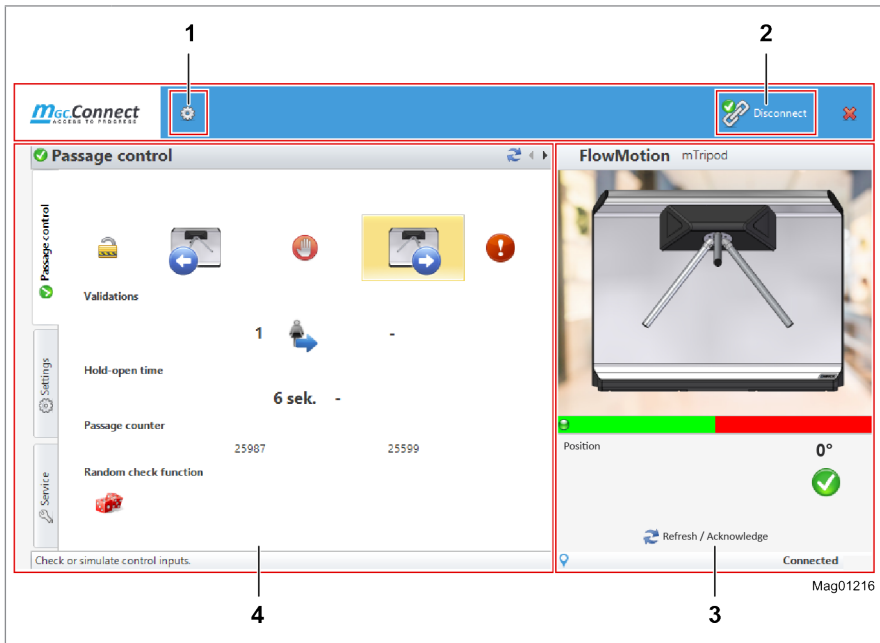

Fig. 5: Exemplary view "MGC.Connect"
1. Open the "Configuration" window. To do so, click the "⚙️" button in the header of the MGC.Connect programme. ↗ Page 22, chapter Fig. 5, pos. 1.
You can change the menu language via the "Language" option in the "Configuration" window. Open the "Configuration" window with the  button in the header of the MGC.Connect programme. ↗ Page 22, Fig. 5, pos. 1.